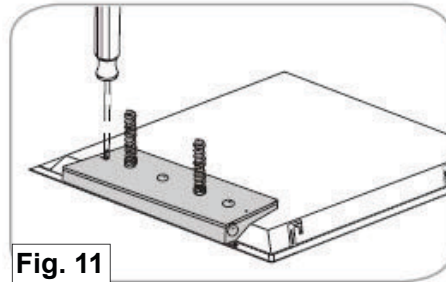

Fig. 11
11. Reinstall electrical enclosure cover and screws (Fig. 11).